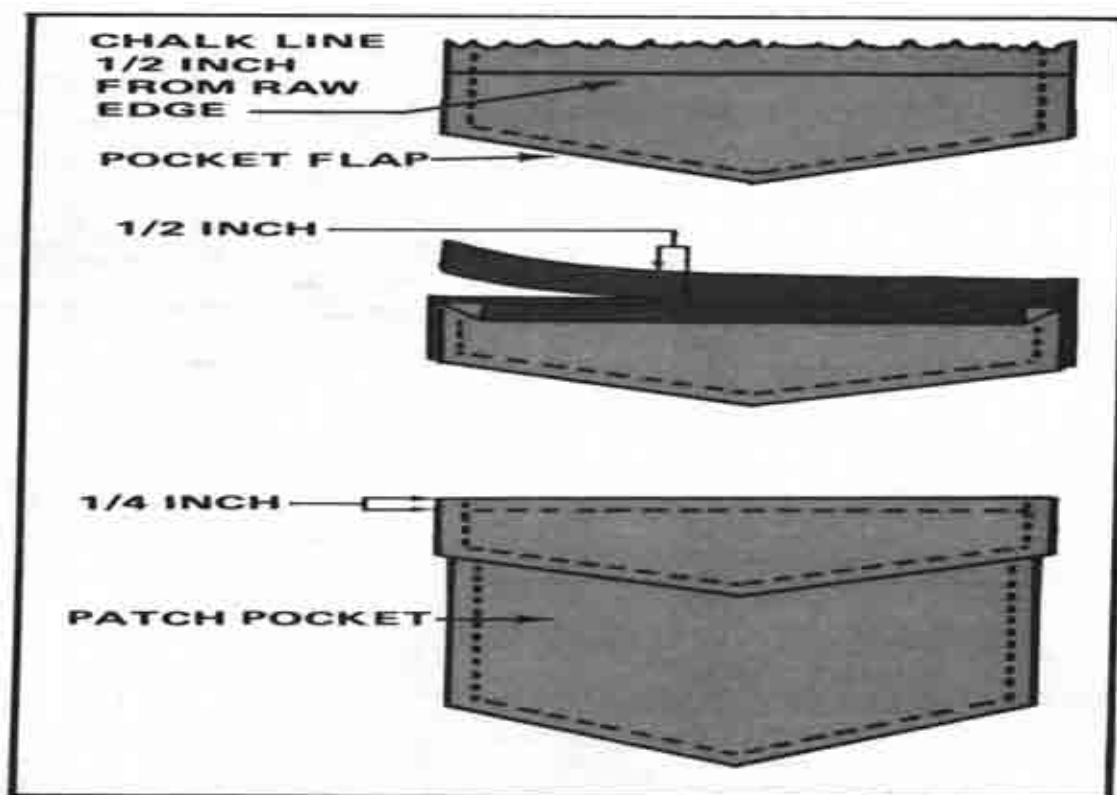

Figure 4-21. Attaching a pocket flap
b. Replacing a Pocket Flap. To replace a pocket flap (Figure 4-21)--
(1) Remove the damaged pocket flap by cutting through all the stitches holding it in place. Do not cut the underlying fabric of the garment. Clean away all loose threads. Place the garment faceup on the worktable.
(2) Obtain a matching replacement pocket flap. Use one salvaged from a similar garment that has been scrapped, or make one from cloth using the old pocket flap as a pattern. Match the fabric fading as closely as possible.
(3) Measure and mark a chalk line on both sides of the pocket 1/2 inch from the raw edge at the top of the pocket flap.
(4) Cut 1/2 inch off the top of the bottom layer of the pocket flap. Use the chalk line as a cutting guide.
(5) Fold under the top layer of the pocket flap 1/2 inch. Use the chalk line as a guide. Press the folded edge flat.
(6) Place the pocket flap faceup 1/2 inch above the pocket.
(7) Make a row of stitches 1/4 inch from the folded edge. Tack the seam 1 inch at each end.